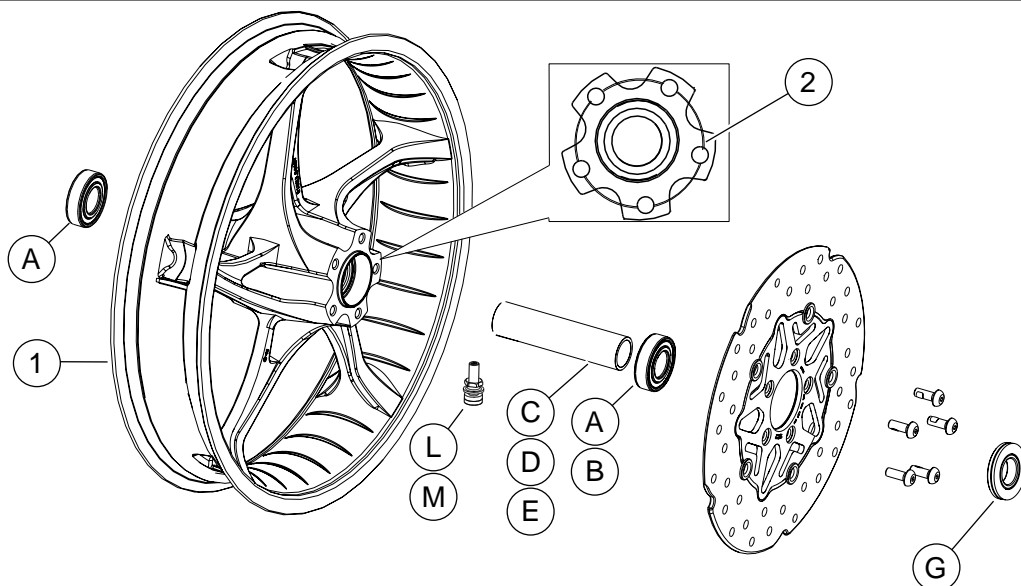

Figure 1. Service Parts: Front Stinger Wheel
See Figure 1 and the Service Parts Tables.
2. See Figure 1. Install valve stem assembly (L or M) on wheel. See the service manual.